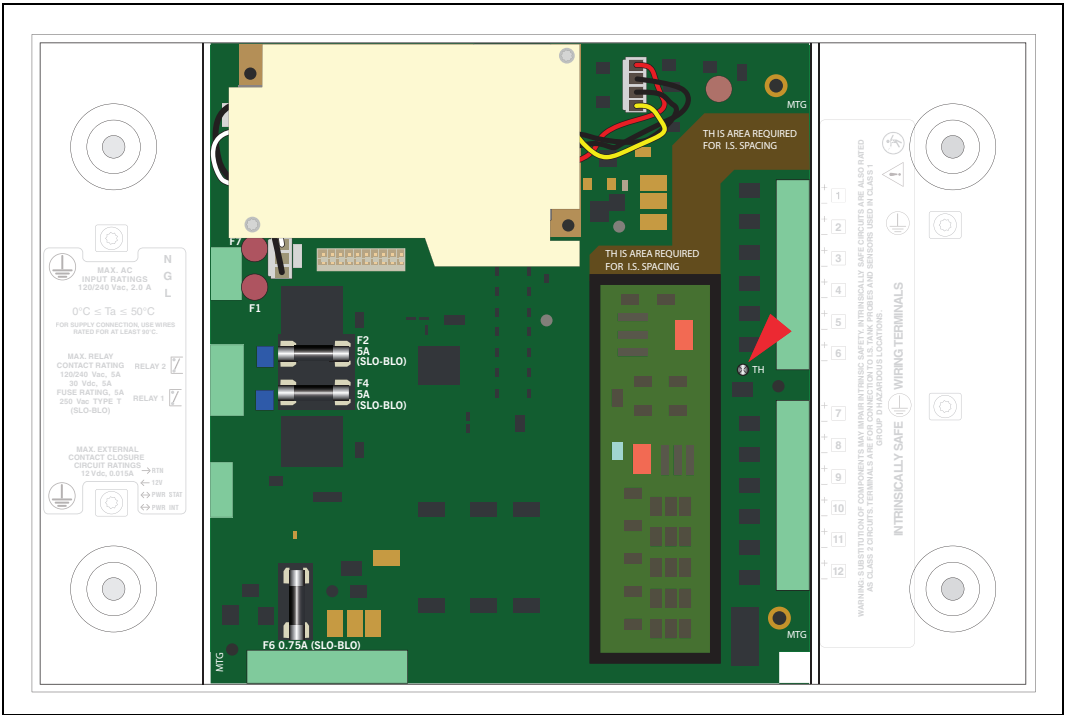

Figure 11. USIOM Board Snap-On Retaining Post
8. With your fingers under the two I.S. sockets and your thumbs positioned on top of them, lift/pry the right side of the USIOM board out enough to release the USIOM board from the snap-on retaining post between the two I.S. sockets (see Figure 11).